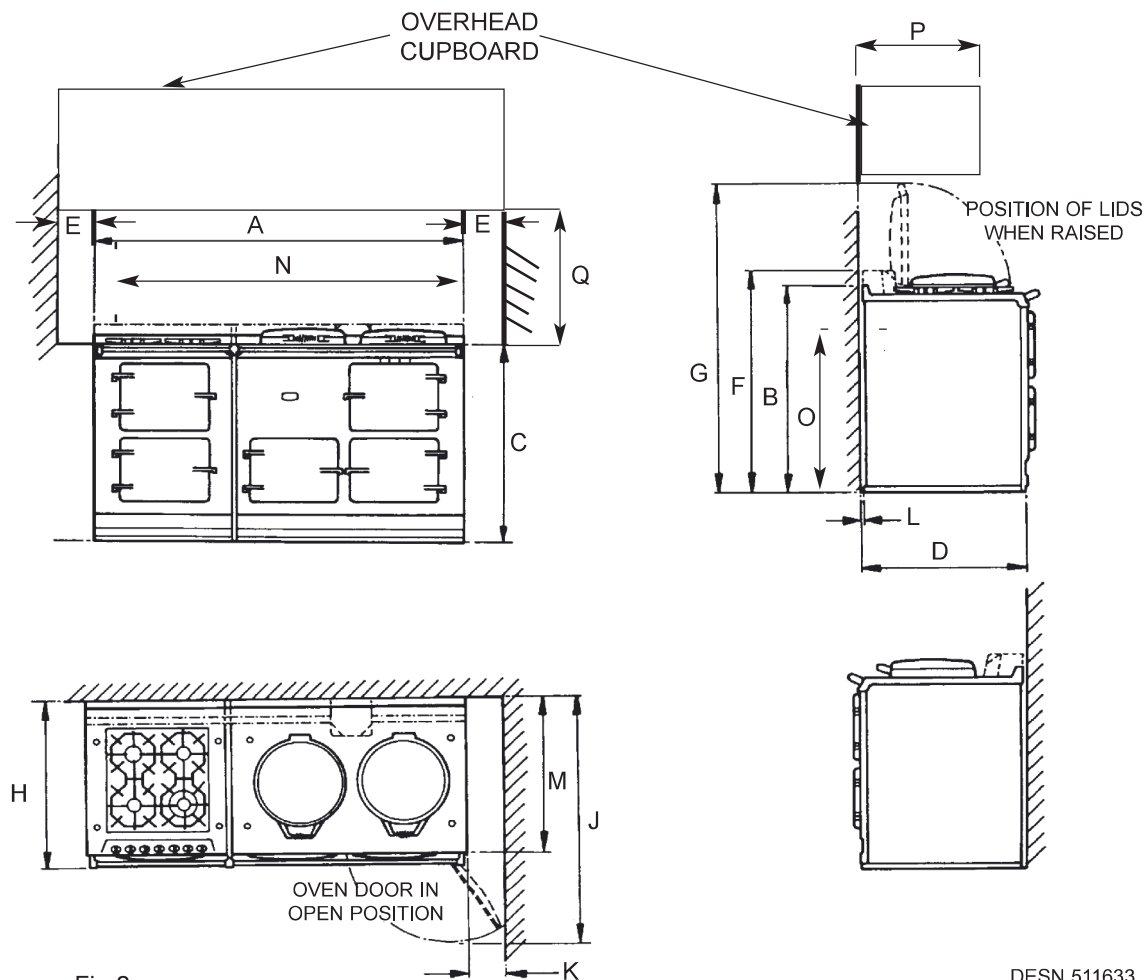
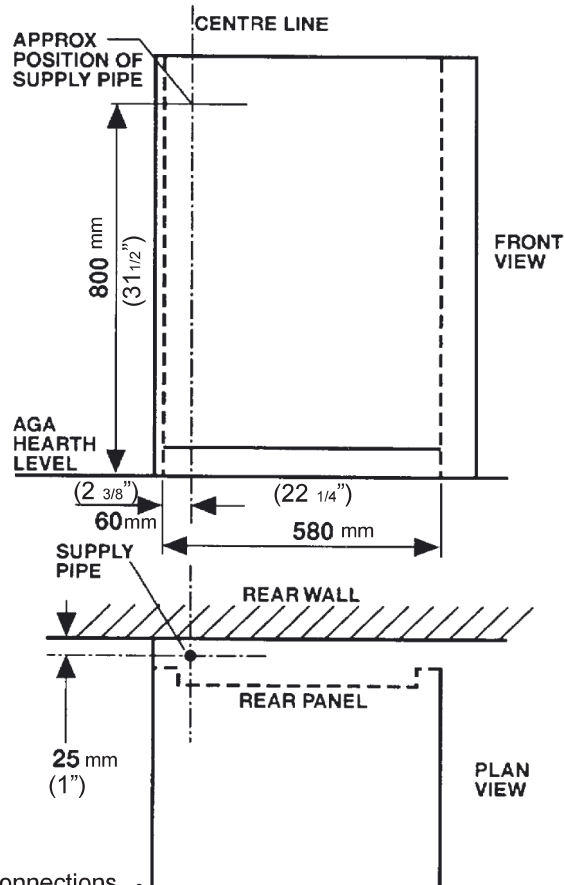

Fig 2
Fig 5 - Gas Supply Connections
- a) Mark off appropriate position on wall for gas supply to cooker (See Fig. 2). Dimensions N and O, (see also Fig. 5).